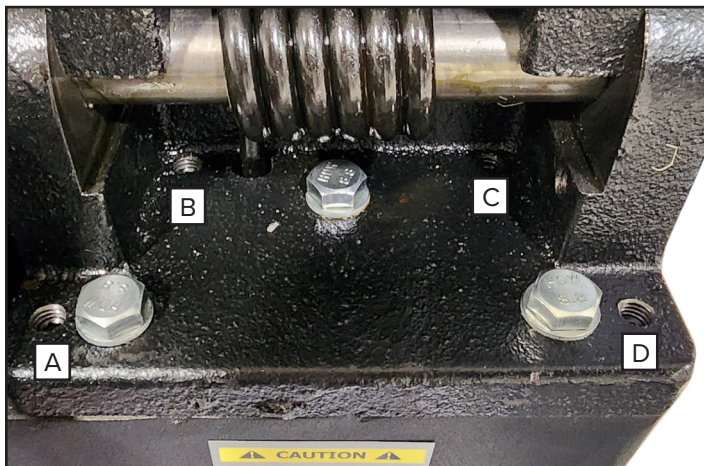

Figure 17: Infeed Table Adjustment.
4. Additionally, the table can be tilted forward or backward using the 3 Special Bolts Figs. 17 The combination of these three bolts and four set screws (A-D) provides a wide range of table positioning options to achieve alignment with the infeed table.
- The pair of 2 set screws to the far left will raise the left end of the table. FIG. 17, A & B.